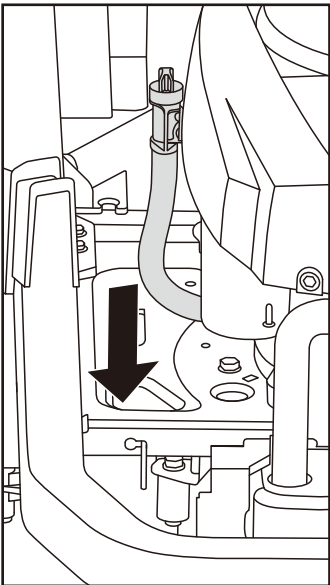

Fig.30A
3. Locate the oil drain sleeve and pull it downward to remove it. (Fig.30A)